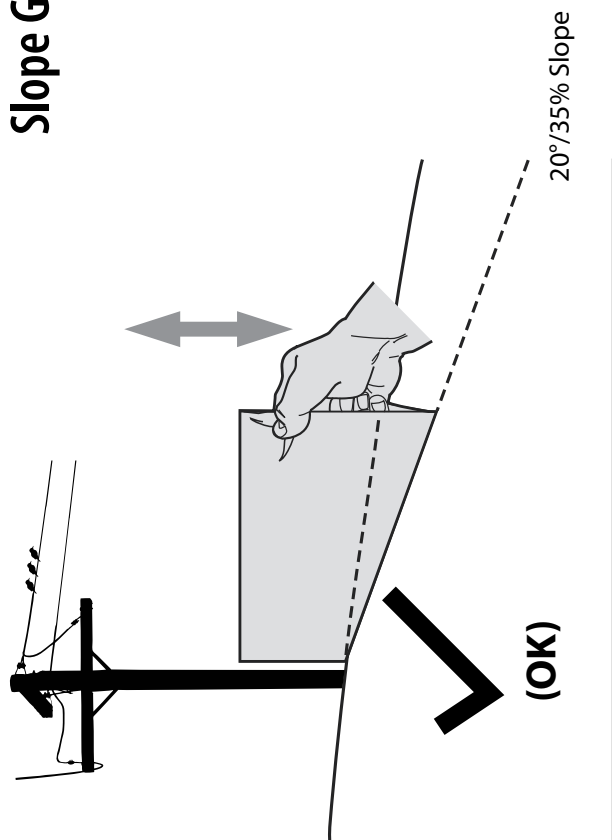

Figure 1
3. Align either side of the slope gauge with the object (See Figure 1 and Figure 2).
4. Adjust gauge up or down until the left corner touches the slope (See Figure 1 and Figure 2).